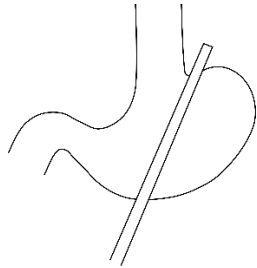

Figure 2: Clamp placed on flat, unfolded soft tissue. Note that the tissue is evenly distributed between the jaws.
4. Place the clamp jaws in the desired location ensuring tissue is flat and evenly distributed between the jaws and that no folds of tissue are created prior to closing the device (Figure 2). If tissue is folded, reposition the tissue.